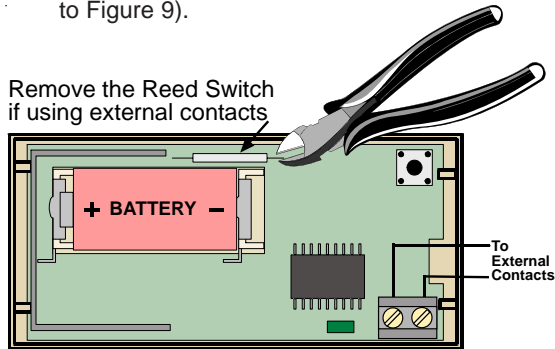
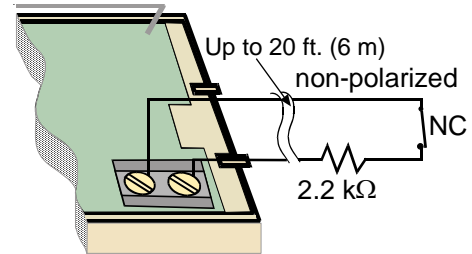
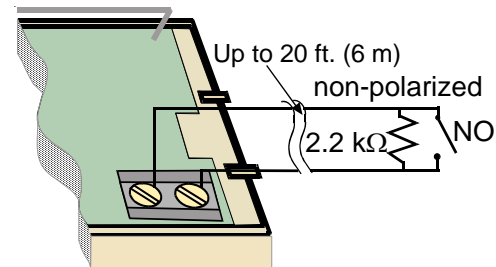

Figure 9 - Removing the Reed Switch
Figure 10 - Typical Normally-Closed (NC) Wiring
Figure 11 - Typical Normally-Open (NO) Wiring
If using an external device, remove the reed switch (refer to Figure 9).
One set of **External Normally-Closed (NC) Contacts** (refer to Figure 9) or one set of **External Normally-Open (NO) Contacts** (refer to Figure 10) may be monitored. Be sure that your panel supports the intended loop condition.
One set of **External Normally-Closed (NC) Contacts** (refer to Figure 10) or one set of **External Normally-Open (NO) Contacts** (refer to Figure 11) may be monitored. Be sure that your panel supports the intended loop condition.